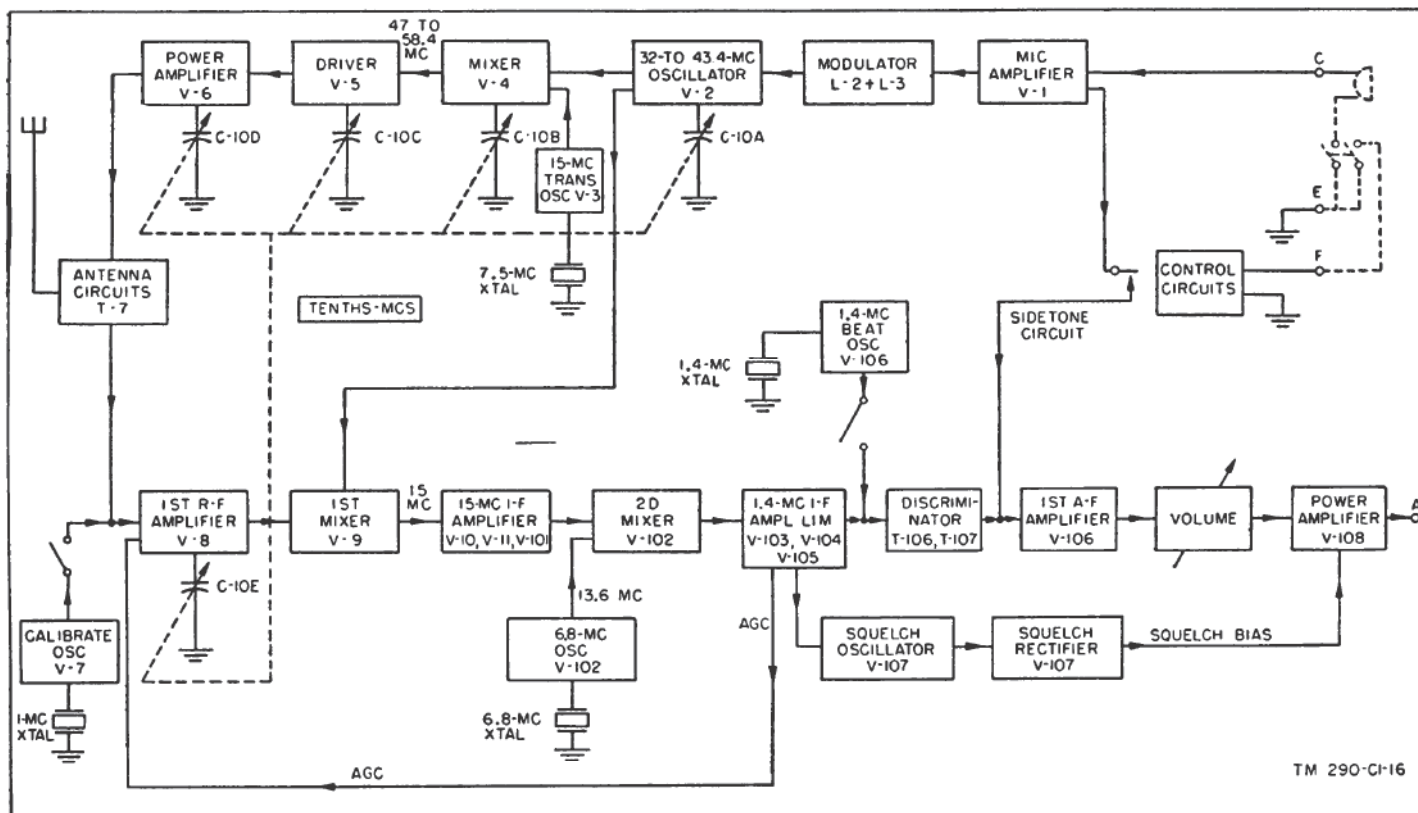

Figure 10. Receiver-Transmitter RT-70/GRC, functional block diagram.
(fig. 10)
a. *General.* The signal path of the receiver-transmitter is shown in the functional block diagram (fig. 10). A complete schematic diagram of the equipment is shown in figures 53 and 54. The block diagram shows that the equipment consists of a separate transmitter circuit and a separate receiver circuit. The two circuits are associated with each other through a common antenna circuit, a common 32- to 43.4-mc oscillator, V2, and a common tuning control. Normally, the receiver is operative while the transmitter is in a standby or inoperative condition. When the microphone button is operated, the receiver is effectively turned off and the transmitter is turned on. This function is accomplished by a relay control circuit also indicated on the block diagram. The frequency range of the transmitter and of the receiver is from 47 to 58.4 mc. This range corresponds to 115 channels of 100 kc each.
b. *Transmitter Signal Path.* The function of the transmitter is to convert speech signals from an external microphone, amplifier, telephone line, or other audio-frequency (AF) source into FM RF signals. This is accomplished by causing the AF signals to shift the frequency of a locally generated carrier frequency which is then transmitted over the air. Voice signals from the external microphone, amplifier, or telephone line are amplified by microphone amplifier stage V1 to the proper value for modulation (pars. 18 and 19). Audio voltages are applied to the modulator to vary the frequency generated by variable oscillator V2 (par. 20) in accordance with the amplitude and frequency of the audio signal. The outputs of 32- to 43.4-mc oscillator V2 and 15-mc transmitter oscillator V3 (par. 22) are combined in mixer stage V4 (par. 23). The desired sum frequency at the output of the transmitter mixer is selected by a tuned circuit and is applied to transmitter driver stage V5 (par. 24). The signal is amplified again and is applied to transmitter power amplifier stage V6 (par. 25). The amplified output is then routed through a tuned antenna circuit to the antenna (par. 26). No antenna switching is provided since the receiver is inoperative when the transmitter is energized.
As shown in figure 10, three oscillators serve to produce the transmitting carrier frequency and the receiver intermediate frequencies. These are 32- to 43.4-mc oscillator V2, 15-mc transmitter oscillator V3 (15-mc output), and the fixed second if 6.8-mc oscillator (13.6-mc output) which uses (part of V102).